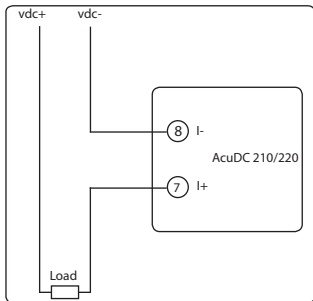

Fig 2.11 Current direct input wiring
- 1) Direct Input (shown in Fig 2.11);